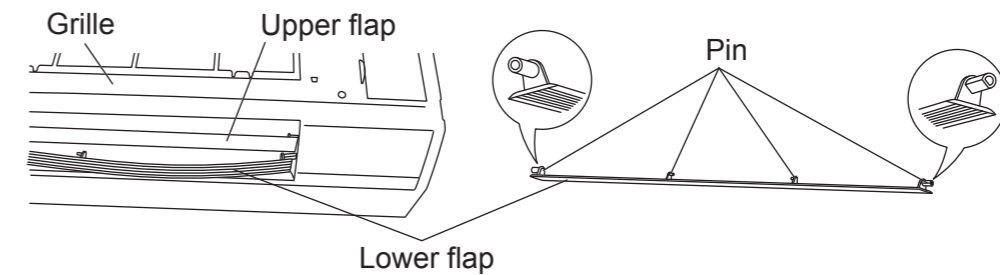

Fig.2
- Warp the lower flap to take out the pins and remove the lower flap. (Fig.2)
- Warp the lower flap and fit the pins to the grooves on the grille to attach the flap. (Fig.2)